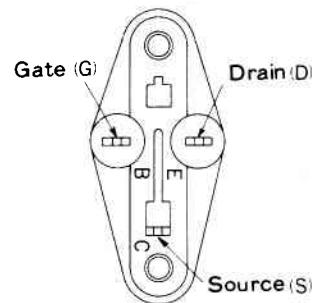

Fig. 5
- (1) When the stabilized power circuit and the peripheral parts of Q701 and Q702 (D706, R752, R753 and their peripheral parts) are replaced, the adjustment of the input/output DC may drift, so be sure to check the input/output DC voltage.
- (2) Since **E** grade of hFE is specially classified into **(E1) – (E3)** for Q701 and Q702, replace them matching the proper grade with the proper channel.
- (3) Since the socket for transistor use is used for the socket of the POWER MOS FET, polarity is indicated as B, C, E. Match it to the indications shown in Fig. 5 when replacing the POWER MOS FET and when checking.